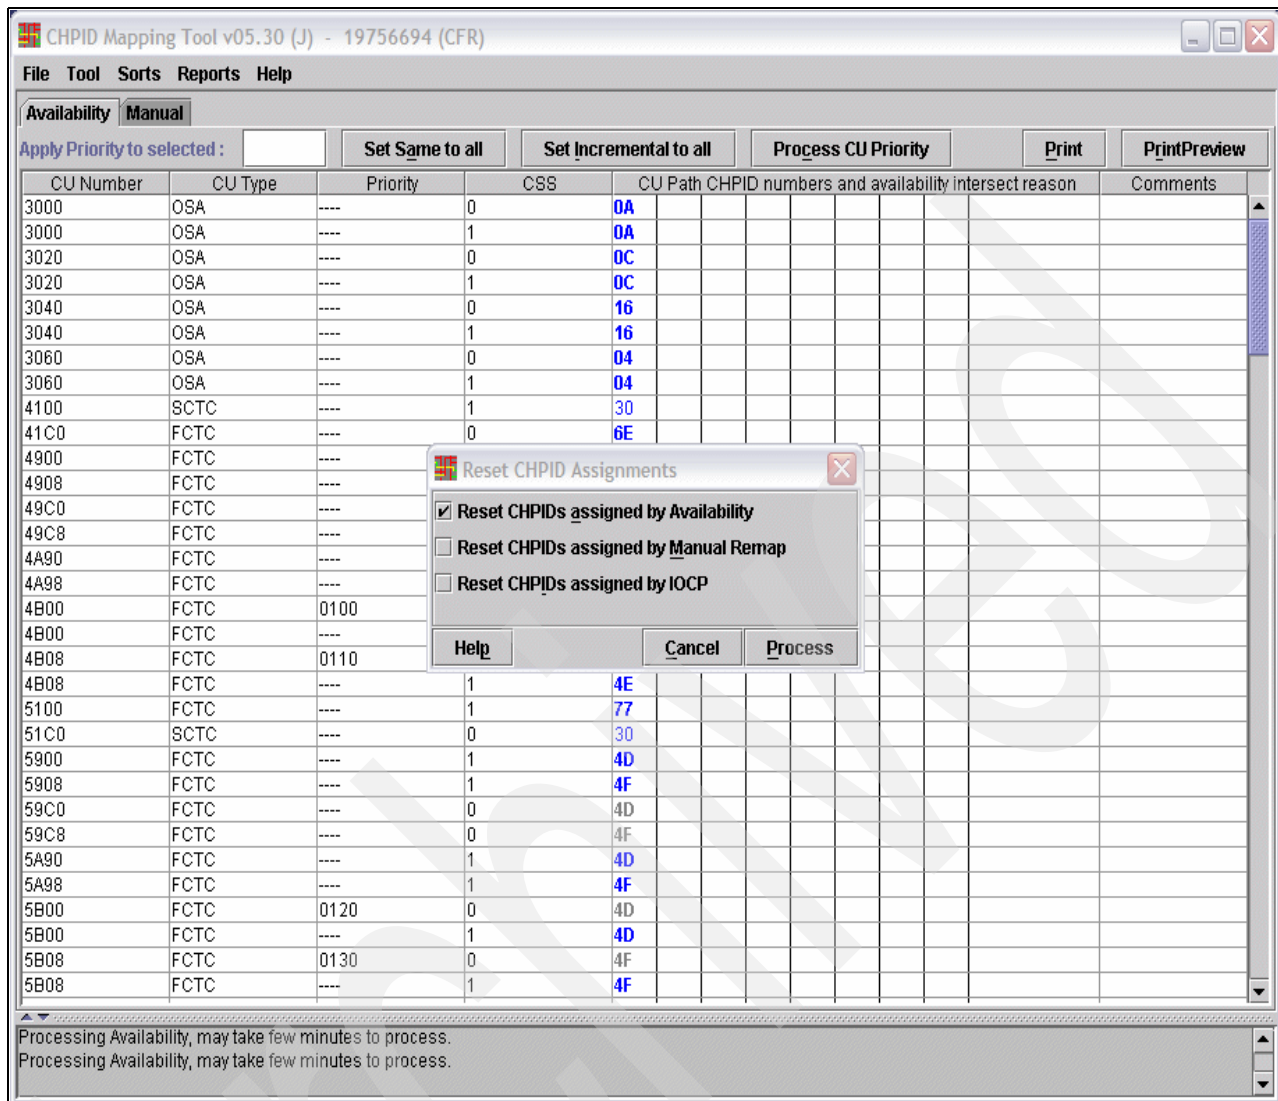

Figure 5-35 CMT - Reset CHPID Assignments by Availability
3. Click **Process**; see Figure 5-35 on page 234.